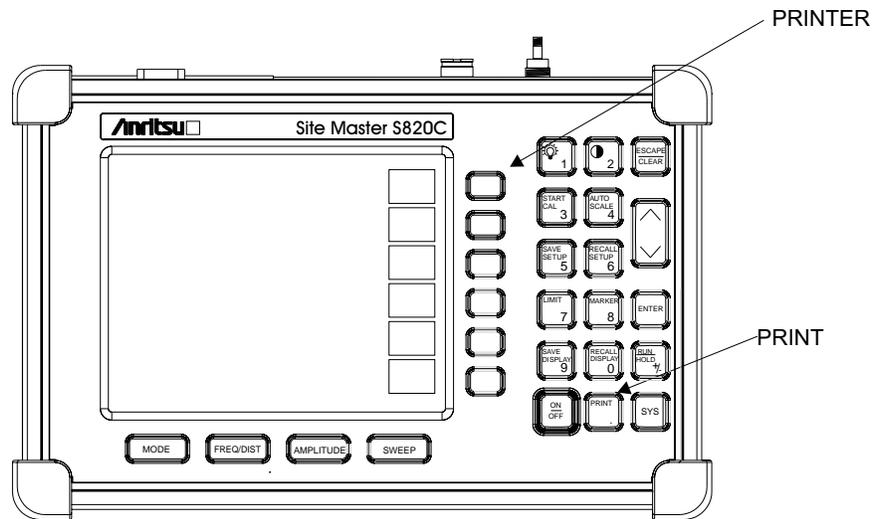

Figure 3-4. Printer Soft Key and PRINT Key
- Step 5.** Press the **PRINT** key. (Figure 3-4).